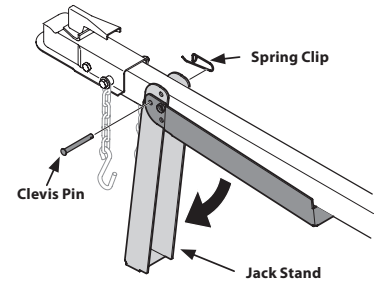

Figure 2
7. Remove the spring clip and clevis pin from the jack stand on the tongue and then pivot the jack stand towards the ground into the operating position. See Figure 2.
8. Secure the jack stand in position with the clevis pin and spring clip. See Figure 2.